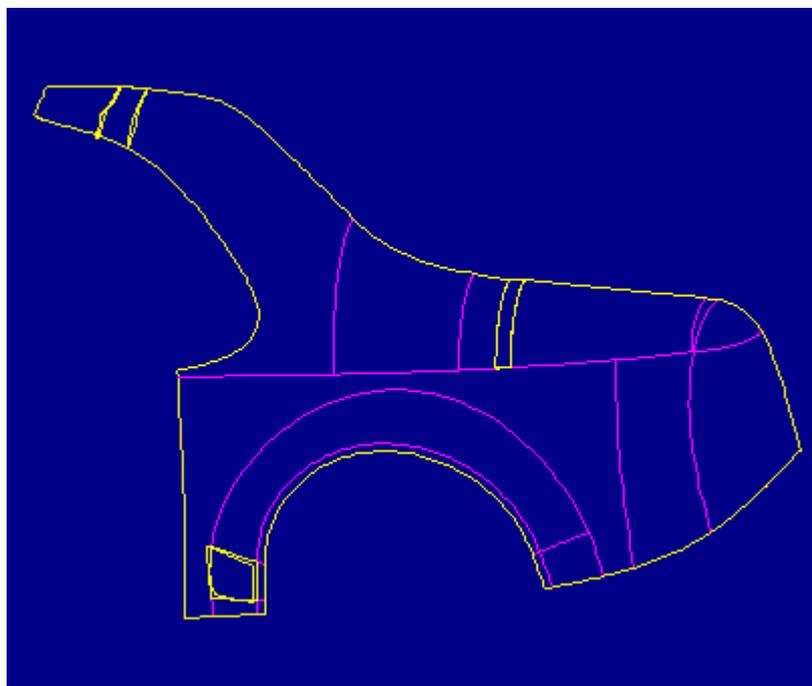
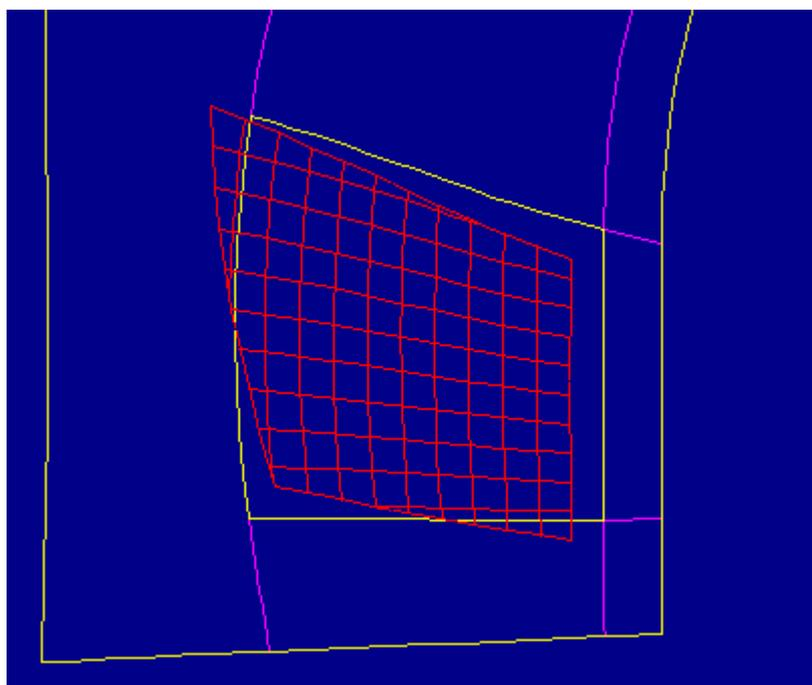

Figure 18
Figure 19
15. Figure 18 shows the current status of the import feature. The next area to be addressed is shown in Figure 19. The red mesh lines on the surface are isolines. Isolines represent the two main directions of surface creation. A surface can be meshed by selecting from VIEW menu **Advanced, Mesh Surface**. Notice that the yellow edge belonging to the surrounding surfaces are very similar to the red isolines. Edge and vertex misalignment is common to imported surfaces. It is frequently the case that surfaces were trimmed along isolines, more surfaces would join together automatically.